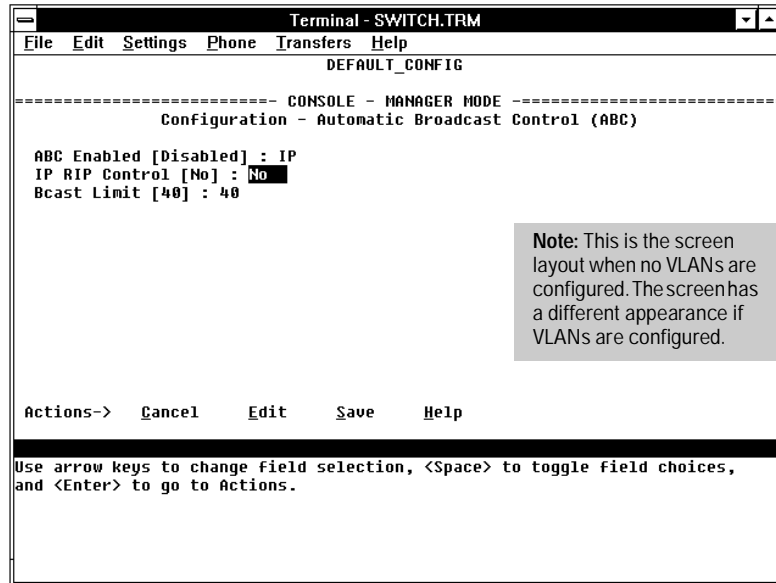

Figure 7-21. ABC Enabled With IP Option (No VLANs Configured)
- If you enabled ABC for IP (figure 7-21, below):